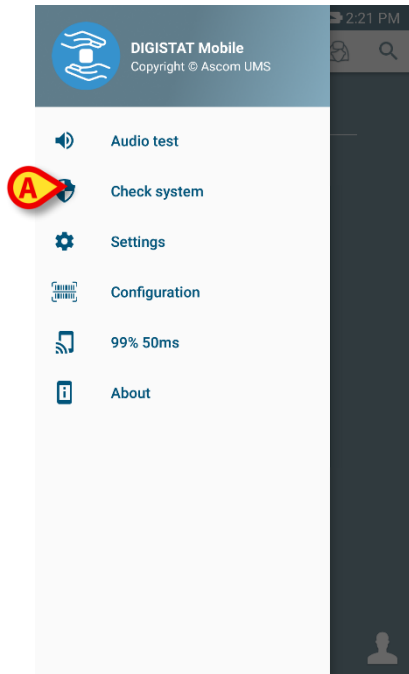

Fig 169
The following menu will be displayed (Fig 169).
- Touch the **Check System** option (Fig 169 **A**).